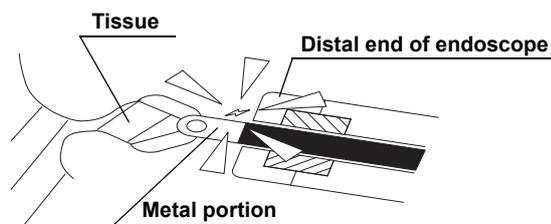

Figure 6
- Do not activate output when the distal end of the endoscope is too close to or in contact with the metal portion at the distal end of the forceps insertion portion. This could cause patient injury, such as perforation, bleeding, or mucous membrane damage (see Figure 6).